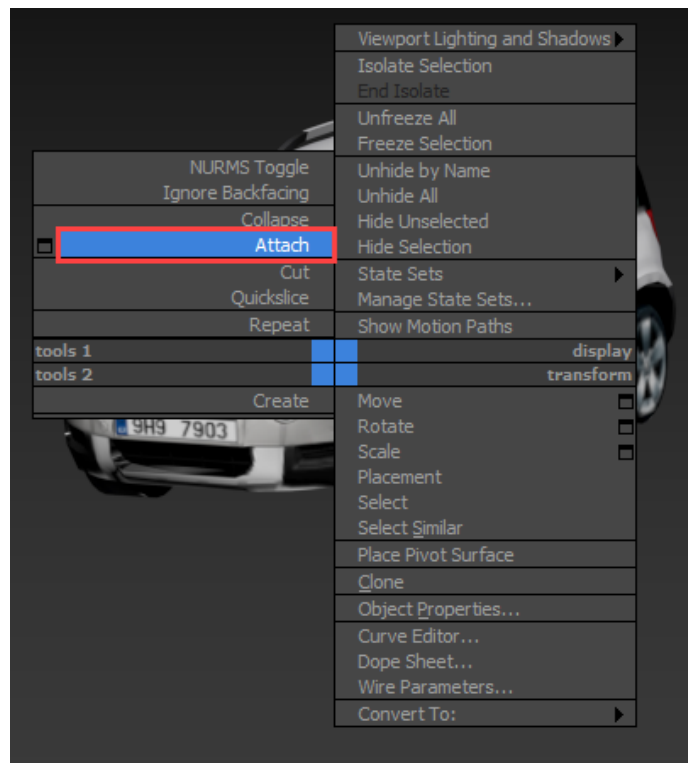

Figure 30.9. **Attach** menu item
3. After that click right mouse button again and select **Attach** in the context menu, see Figure 30.9.